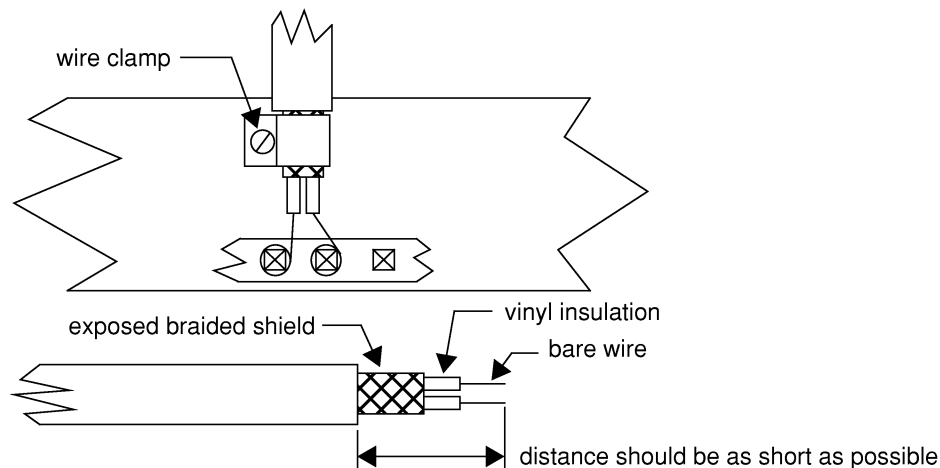

Figure 2-4 FCC Part 15, Subpart B, Class A Compliant Major and Minor Alarm Termination Method
- 2.14 Figure 2-4 is an example of a wire-wrap connection. Strip the outer insulation back to expose the braided and individual insulated wires. The exposed shield braid goes under the wire clamp, as shown in the figure.